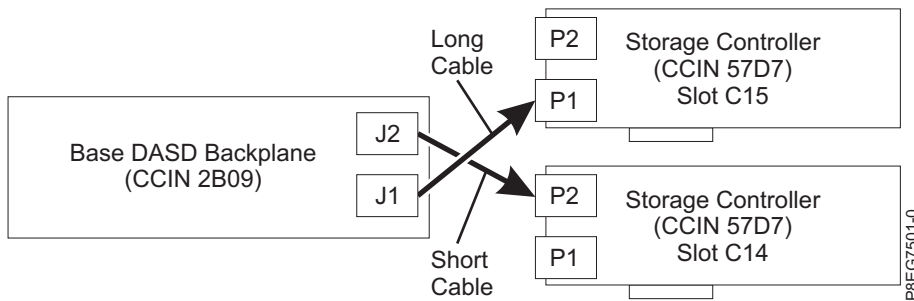

Figure 19. Reconnecting the SAS cable in a split-disk configuration
- If you have two PCIe3 x8 SAS RAID internal adapters (CCIN 57D7) (split disk feature), the short SAS cable connects the upper disk drive backplane connector (J2) to the P2 connector on the adapter in slot P1-C14. The long SAS cable connects the lower disk drive backplane connector (J1) to the P1 connector on the adapter in slot P1-C15. See Figure 19.